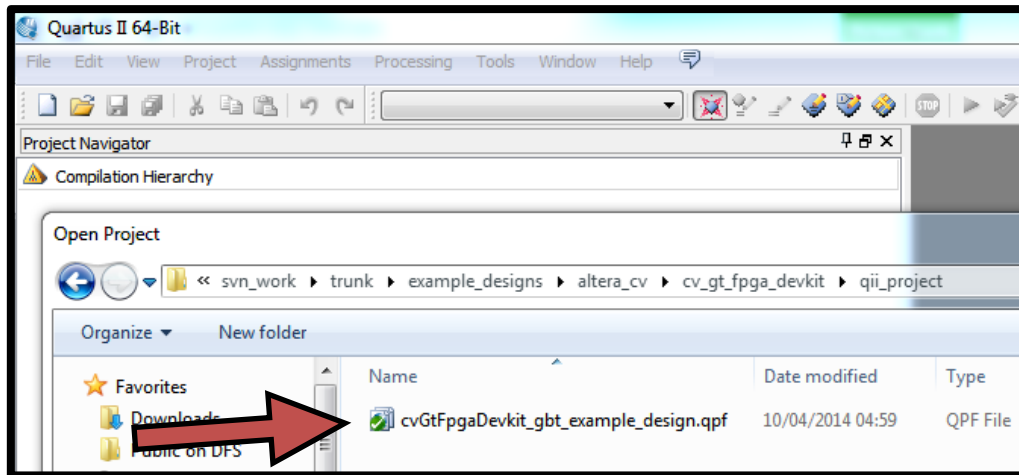

Figure 37: Folder of the Quartus II project file (.qpf)
4. Open the "qii_project" folder where the Quartus II project file of the selected GBT-FPGA example design (in this case "cvGtFpgaDevkit_gbt_example_design.qpf") is stored and double click on it for opening the project in Quartus II (if it is the first time that you open the GBT-FPGA example design, the "Open Project" window will only show the .qps file) (see Figure 37).